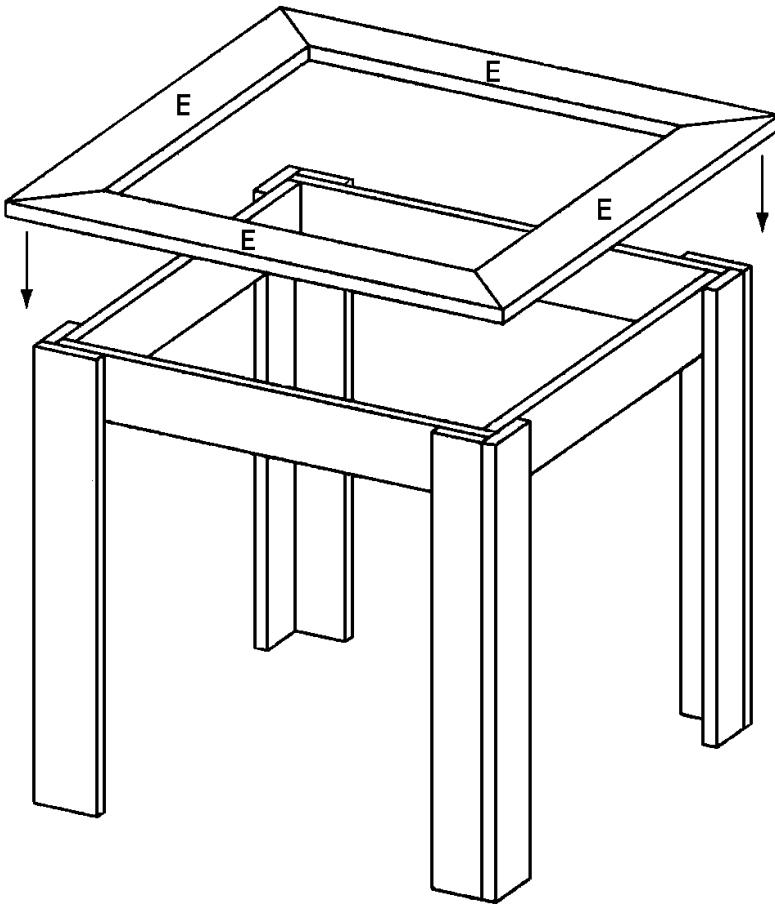

Figure 5
3. Attach each of the lower trims (E) to the base assembly, as shown in *Figure 5*. Apply glue to the top edge of the long and short bases (A and B), screw through the lower trims (E) into the wide and narrow legs (C and D) and the long and short bases (A and B). Use 1-1/2-inch screws spaced about 6 inches apart. The lower trims should overhang the legs by 1 inch. Use 1 1/4-inch (3d) finishing nails to keep the outside corners of the miter joints aligned. Nail across the joint from each side, starting about 3/4" from the end. Offset the nails slightly to avoid hitting the first nail with the second one.
4. Cut four upper trims (F) from 1 x 4 pine, each measuring 31 inches long.